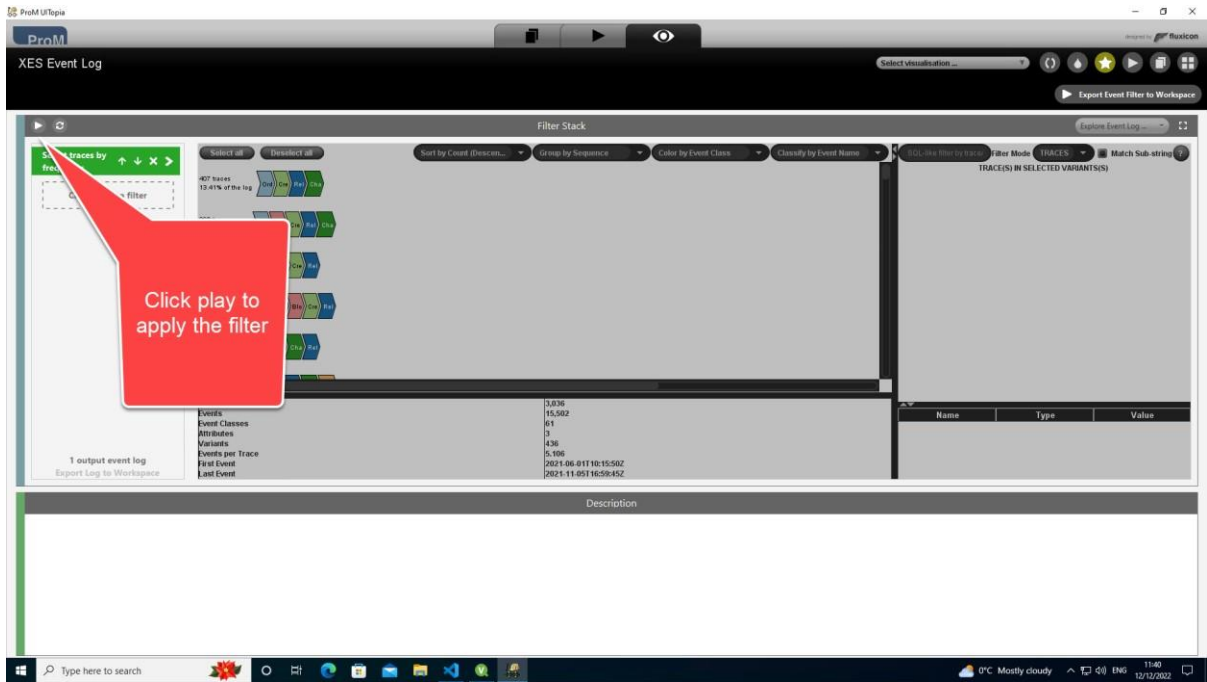

Figure 19 - Image showing how to apply the filter.
15. Click the play button seen in Figure 19 to apply the filter.